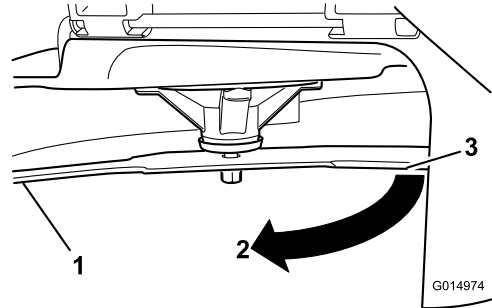

Figure 61
4. Rotate the same blade 180 degrees so that the opposing cutting edge is now in the same position (Figure 61).